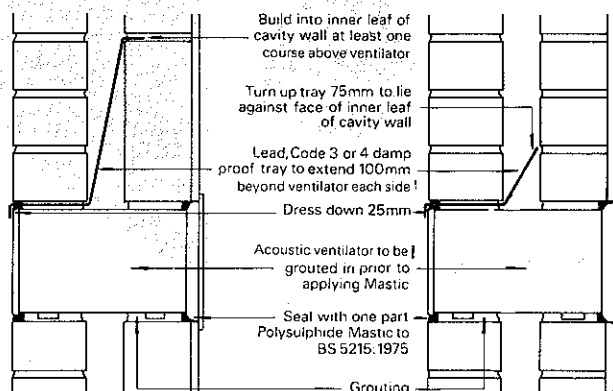

Fig. 3
- Fit as indicated in figure 3.